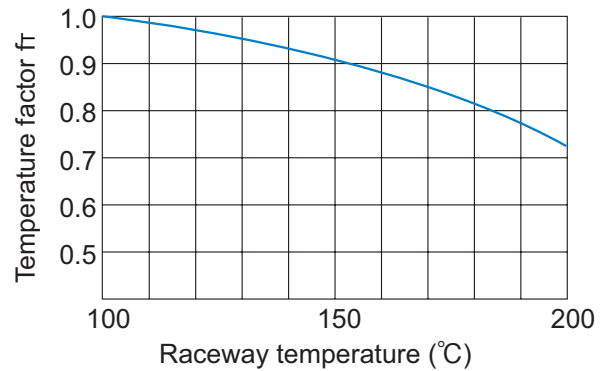

Fig.2 Temperature Factor (f_T)
- C : Basic dynamic load rating (N)
- P_C : Calculated load (N)
- f_T : Temperature factor (see Fig.2 on A-539)
If the temperature of the environment surrounding the operating Linear Bushing exceeds 100°C, take into account the adverse effect of the high temperature and multiply the basic load ratings by the temperature factor indicated in Fig.2.